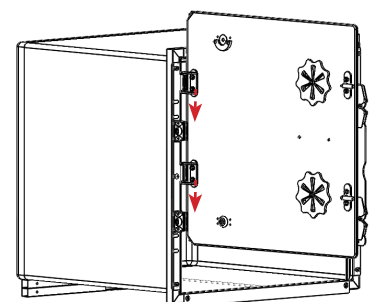

FIGURE 2.13 - Door Installation
**STEP 6:** Install the O2 Door by holding the door hinge pins/bushings above the cage hinges at a 90° angle to the face of the cage. Slide the hinge pins/bushings down into the hinges. See FIGURE 2.13